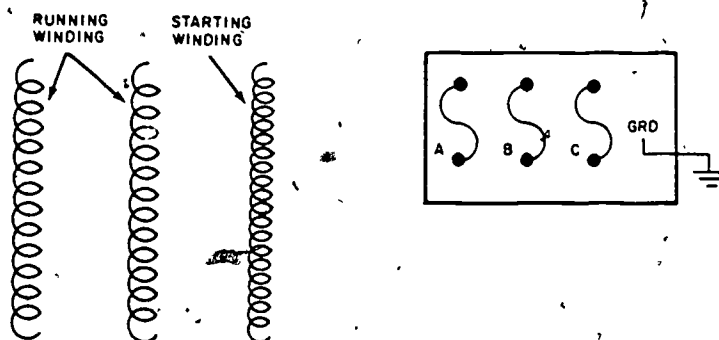

Figure 27. Single-Phase Motor Windings.
Reverse direction of rotation of this motor compared to the motor in figure 27. Connect for low voltage.
5. In the motor terminal box, connect the motor leads for low voltage. Refer to the diagram shown in figure 27 for low-voltage connections.